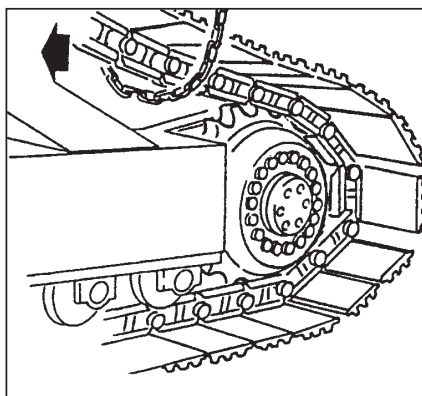

Fig. 3-16 Pull Track Chain Over Sprocket
5. Pull the track chain over the crawler assembly from the sprocket end (fig. 3-16).